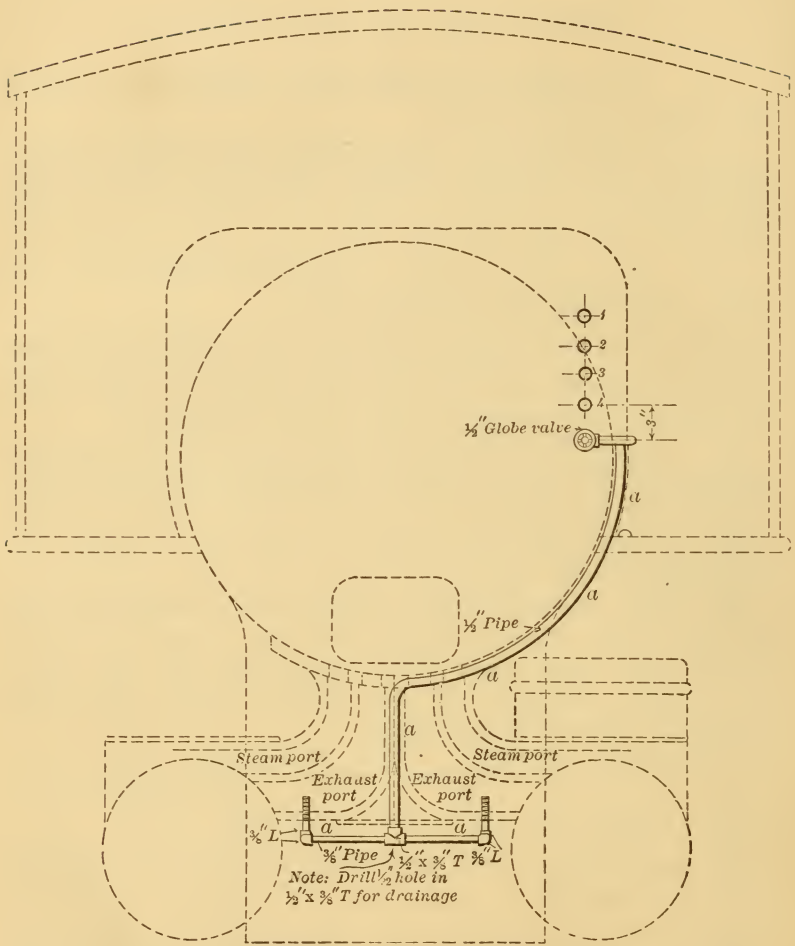
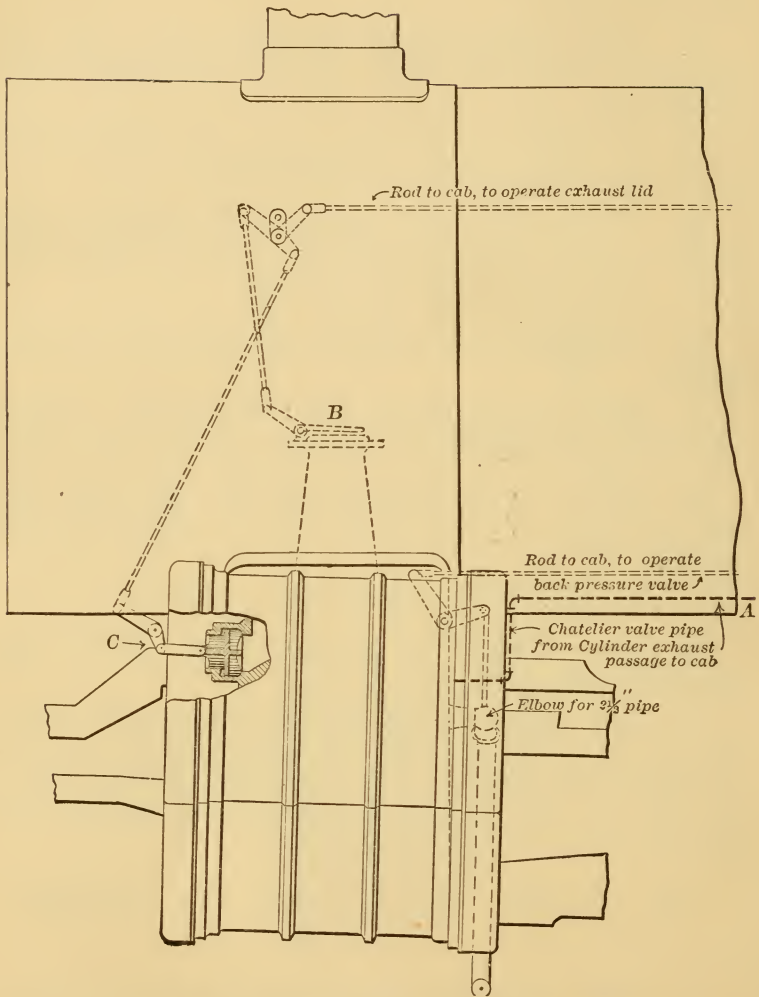
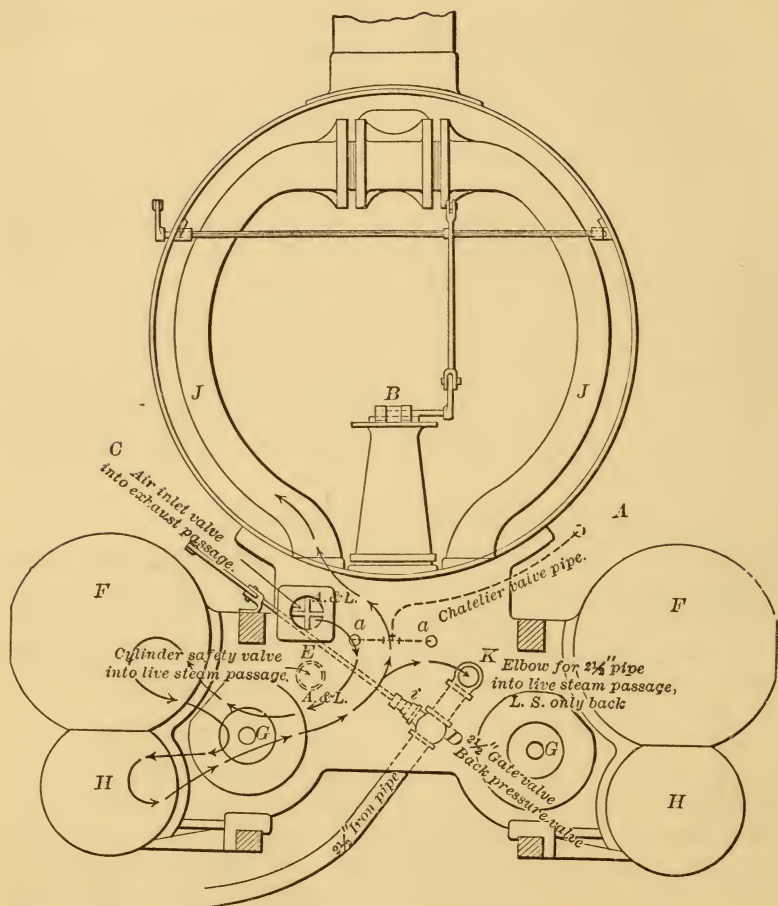

FIG. 44.—WATER BRAKE ON SIMPLE ENGINE.
FIG. 45.—BALDWIN WATER BRAKE FOR COMPOUND ENGINE.
FIG. 46.—BALDWIN WATER BRAKE FOR COMPOUND ENGINE.
A. Yes; Fig. 44 shows its application to a simple and Figs. 45 and 46 to a compound engine.
A. As the pistons move back and forth the wet steam in the exhaust cavities (Fig. 44) is drawn into the cylinders.
A. The cylinder cocks should first be opened and should remain open as long as the water brake is in use; the reverse lever should be moved back of the center the desired amount and the globe valve (Fig. 44) should be opened immediately.
Q. How much should the globe valve (Fig. 44) be open to obtain the right amount of steam in the cylinders?
Q. What is the purpose of the 1/32-inch hole drilled in the 1/2 x 3/8-inch tee, as indicated (Fig. 44)?
Q. Explain the cuts (Figs. 45 and 46) referring to the water brake for compounds.
A. Fig. 45 is a side view of the front end and Fig. 46 is an end view. When water is permitted to enter pipe *A* (Figs. 45 and 46) it finally reaches *a a*, where it enters the exhaust passages. *D* (Fig. 46) is a gate or back pressure valve, by means of which the engineer can regulate the amount of back pressure against which the pistons will operate. *E* is a safety valve located in the live steamways to permit any back pressure above a given amount to escape. *C* (Figs. 45 and 46) are air inlet valves, which when necessary permit air to enter the cylinders and prevent smoke and cinders from being drawn in. *B* (Fig. 45) is a hinged lid used to close the exhaust nozzle.
A. As air enters the inlet valve *C* (Fig. 45) it mingles with the hot water and steam entering the exhaust cavities from *a, a*. From here it passes by the piston valve *G* and enters the low pressure cylinder. When the movement of the piston in the low pressure cylinder is reversed this combination of steam, water and air, excepting that which escapes at the cylinder cocks, is compressed while the other end of the cylinder is being filled. The steam being compressed passes by piston *G* and on, as indicated (Fig. 46), into the opposite